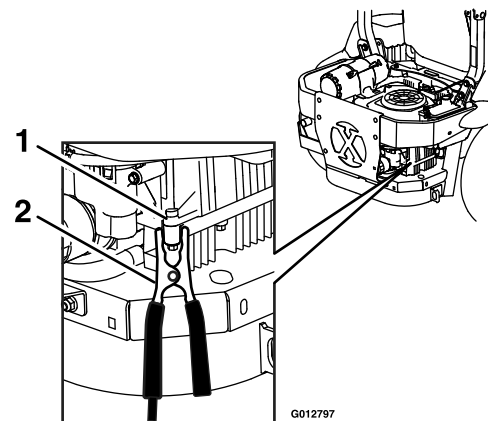

Figure 39
6. MAKE THE FINAL CONNECTION ON THE ENGINE BLOCK OF THE STALLED VEHICLE (NOT TO THE NEGATIVE POST) AWAY FROM THE BATTERY. STAND BACK (see Figure 39).